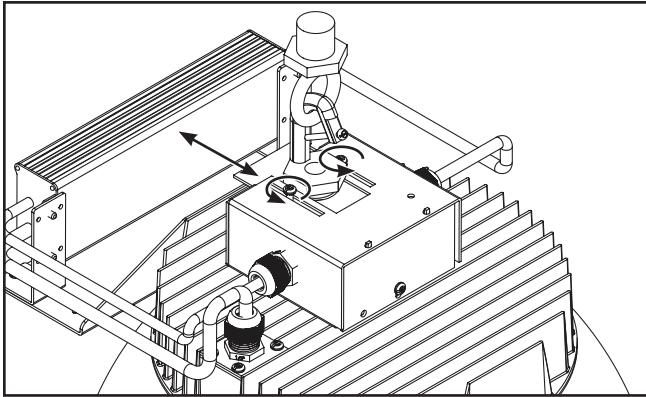

Figure 3.
7. Loosen the 2 screws on top of the adjustable mounting plate by 1.5 turns, then slide the adjustable mounting plate until luminaire hangs level, using water level to assist if necessary. Retighten the 2 screws. (Figure 3)